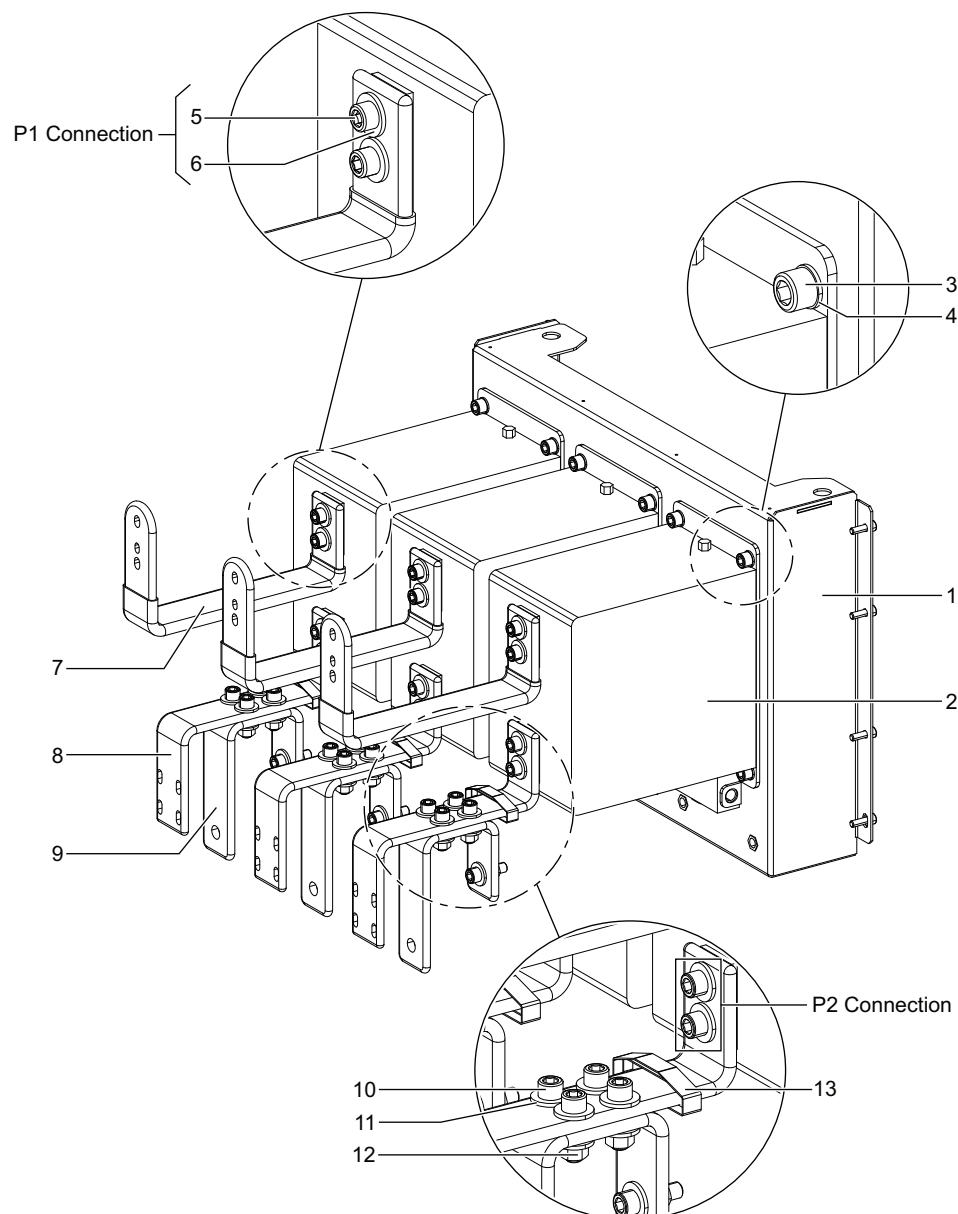

Figure 73
1. Place the CT (2) on the mounting plate (1) (Figure 73).
2. Insert the washers (4) and the screws (3) in the mounting holes at each corner of the CT (2).
3. Tighten each screw (3) to a torque of 68 N•m.